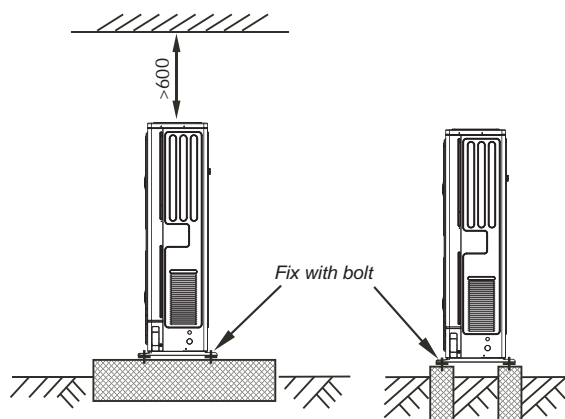

Fig.3-5
- Make concrete foundation according to the specifications of the outdoor units.(refer to Fig.3-5)
- Fasten the feet of this unit with bolts firmly to prevent it from collapsing in case of earthquake or strong wind. (refer to Fig.3-5)